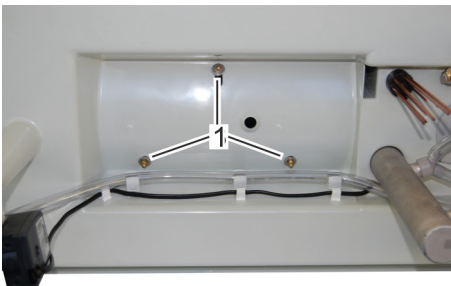

Fig. 55: Tightening the fan
9. ➔ Tighten the fan at the bottom of the center piece again (Fig. 55/1).